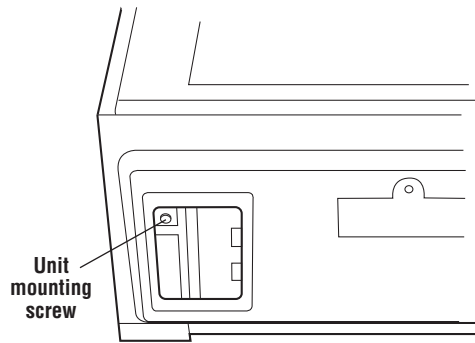

Figure 23
6. Tighten the two unit mounting screws located in the grease filter openings. See Figure 23.